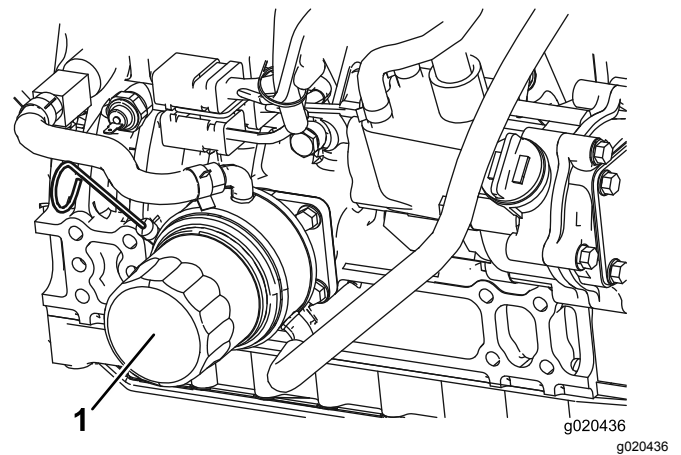

Figure 75
2. Remove the oil filter (Figure 75). Apply a light coat of clean oil to the new filter seal before screwing it on. **Do not overtighten.**